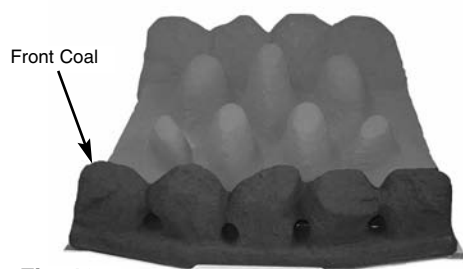

Fig. 13
3. Position the front coal on the front ceramic retainer, making sure that the back edge is pushed up against the front of the burner strip (Fig. 13).